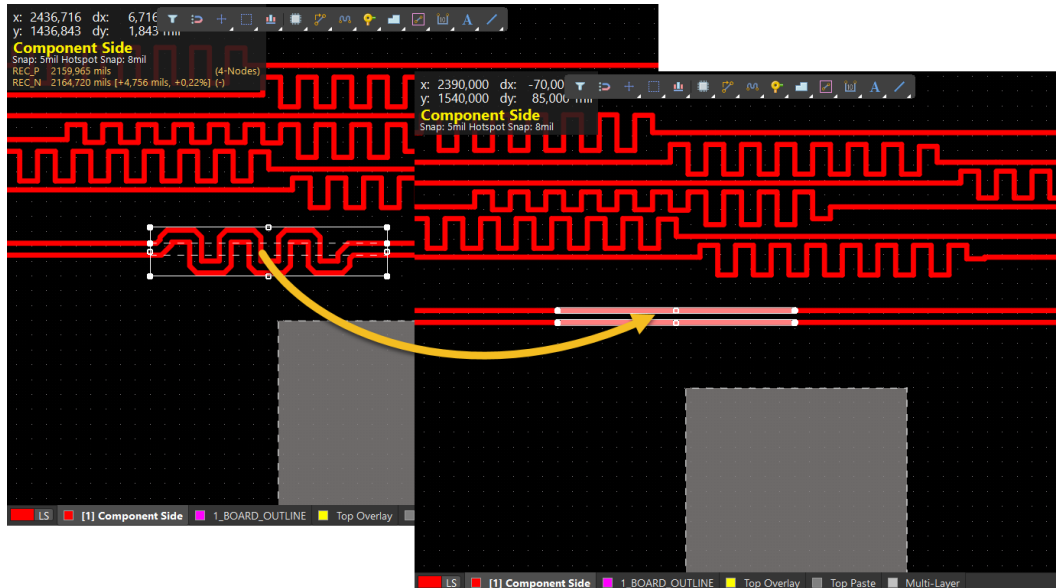

Figure 11. Delete an existing length tuning
48. To remove a placed length tuning information, follow the steps below, Figure 11: